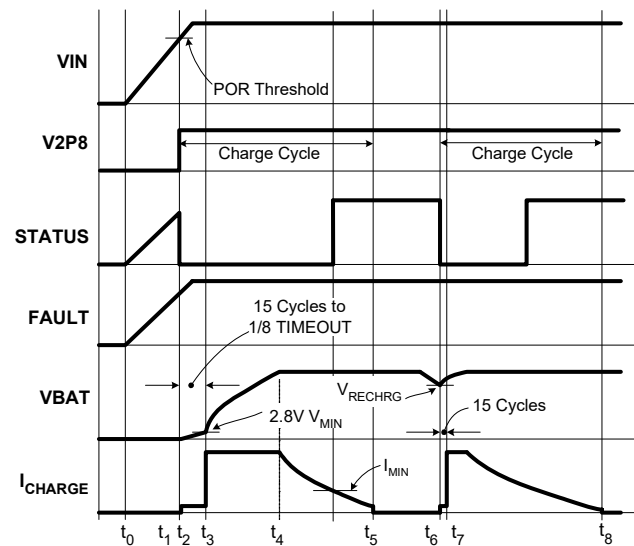

FIGURE 21. OPERATION WAVEFORMS
Figure 21 illustrates the typical signal waveforms for the linear charger from the power-up to a recharge cycle. More detailed Applications Information is given in the following.
The two indication pins, STATUS and FAULT, indicate a LOW and a HIGH logic signal respectively. Figure 21 illustrates the start-up of the charger between t_0 to t_2 .
A charge cycle consists of three charge modes: trickle mode, constant current (CC) mode, and constant voltage (CV) mode. The charge cycle always starts with the trickle mode until the battery voltage stays above V_{MIN} (2.8V typical) for 15 consecutive cycles of the internal oscillator. If the battery voltage drops below V_{MIN} during the 15 cycles, the 15-cycle counter is reset and the charger stays in the trickle mode. The charger moves to the CC mode after verifying the battery voltage. As the battery-pack terminal voltage rises to the final charge voltage V_{CH} , the CV mode begins. The terminal voltage is regulated at the constant V_{CH} in the CV mode and the charge current is expected to decline. After the charge current drops below I_{MIN} (programmable for the 4x4 and 5x5 package and programmed to 1/10 of I_{REF} for the 3x3 package; see "End-of-Charge (EOC) Current" on page 14 for more detail), the ISL6292 indicates the end-of-charge (EOC) with the STATUS pin. The charging actually does not terminate until the internal timer completes its length of TIMEOUT in order to bring the battery to its full capacity. Signals in a charge cycle are illustrated in Figure 21 between points t_2 to t_5 .
After a charge cycle completes, charging is prohibited until the battery voltage drops to a recharge threshold, V_{RECHRG} (see “Electrical Specifications” on page 6). Then a new charge cycle starts at point t_6 and ends at point t_8 , as shown in Figure 21. The safety timer is reset at t_6 .
The trickle mode charge has a time limit of 1/8 TIMEOUT. If the battery voltage does not reach V_{MIN} within this limit, a TIMEOUT fault is issued and the charger latches up. The charger stays in trickle mode for at least 15 cycles of the internal oscillator and, at most, 1/8 of TIMEOUT, as shown in Figure 21.
The end-of-charge current I_{MIN} sets the level at which the charger starts to indicate the end of the charge with the STATUS pin, as shown in Figure 21. The charger actually does not terminate charging until the end of the TIMEOUT, as described in “Total Charge Time” on page 13. The I_{MIN} is set in two ways, by connecting a resistor between the IMIN pin and ground, or by connecting the IMIN pin to the V2P8 pin. When programming with the resistor, the I_{MIN} is set in Equation 6.